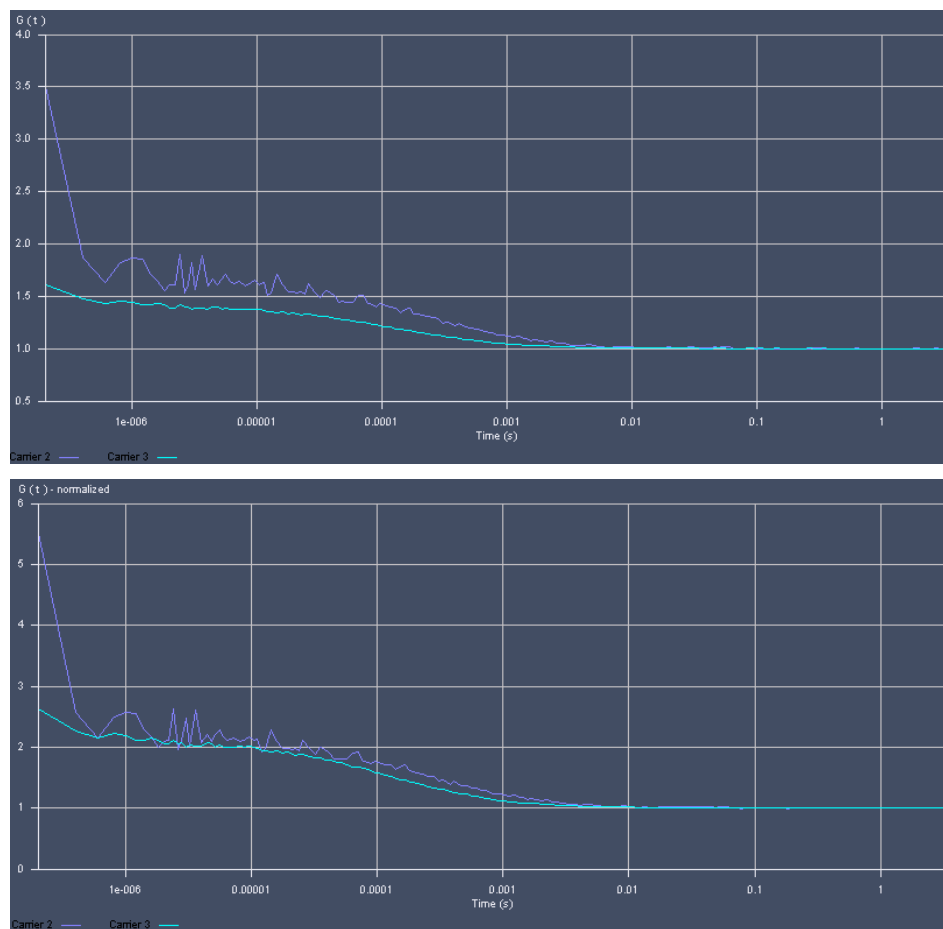

Fig. 93 The Correlation Curve window in normal (upper graph) and normalized (lower graph) display
- Selection of **Normalize** will normalize the curves to 2 (Fig. 93):